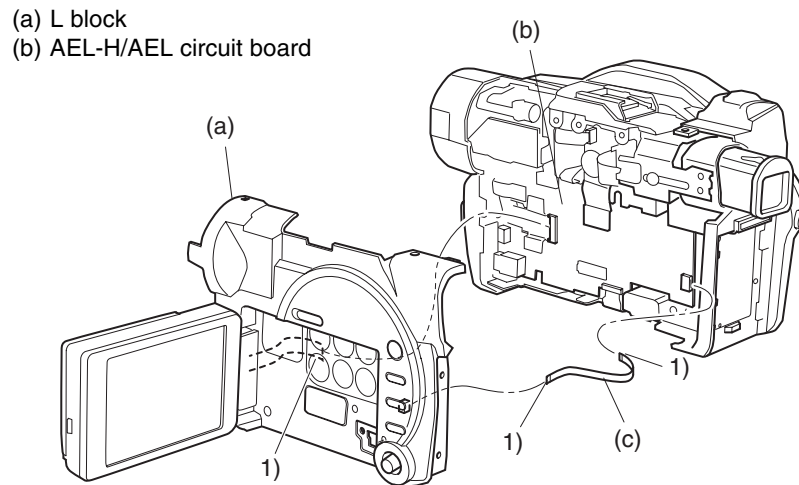

Fig. 4-7-10 Setting to service position (C)
- 1) Connect the L block to AEL-H/AEL circuit board. (See Fig. 4-7-10)